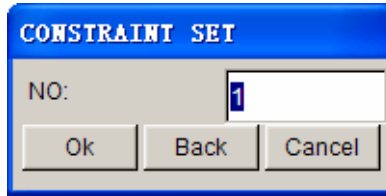

Figure 1.39: CONSTRAINT SET dialog box
- 2) In constraint Type. Default constraint is fixed constraint. Click Create button, constraint group number define dialogue box pops up. Click OK button to accept default setting. See figure 1.39.